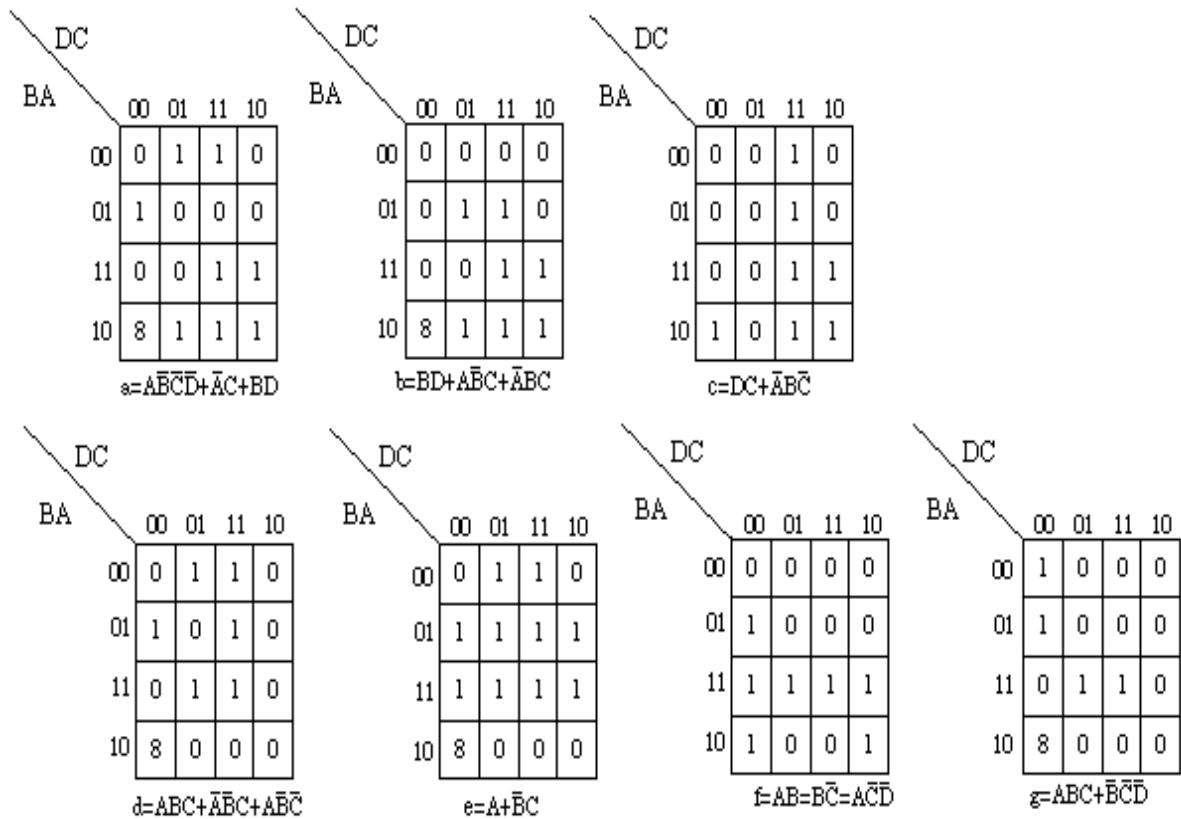

Figure 4-8 7 segment display decoder's simplified k-map
3. The relationship of a, b, c, d, e, f, g's input and output, as figure 4-8's k-map